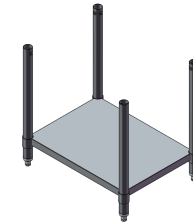

Fig.2
4. Use grub screws to loosely fix the under shelf to the legs at approximately 8" from floor, then stand upright [Fig.2]